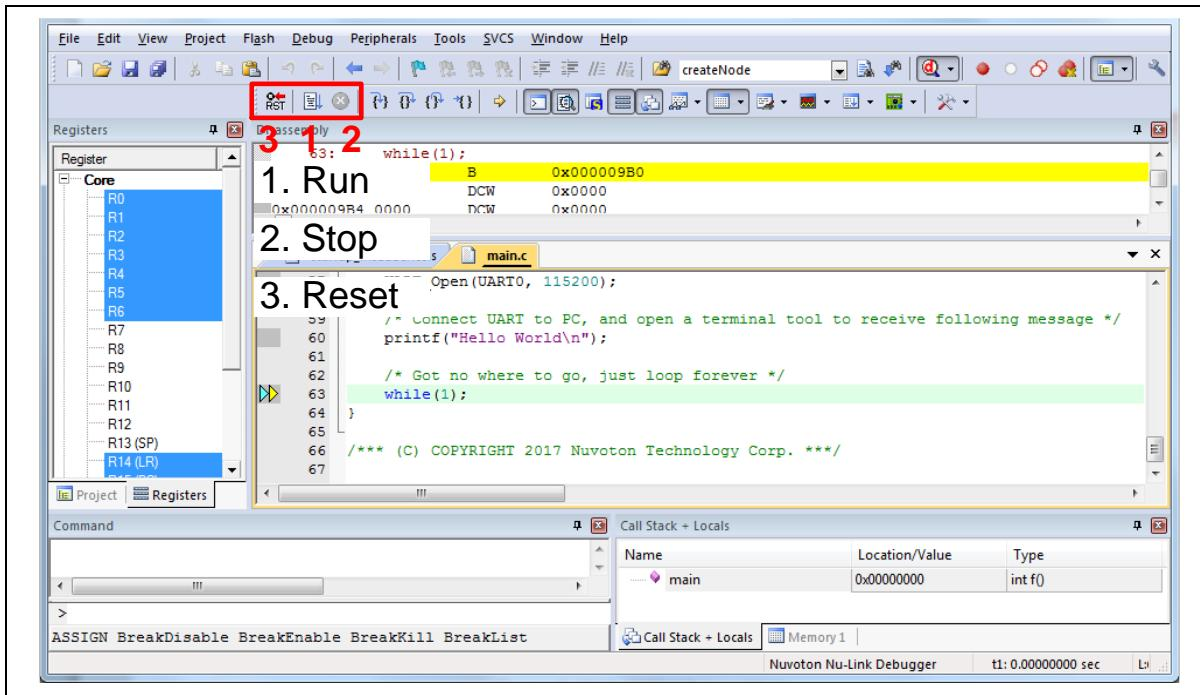
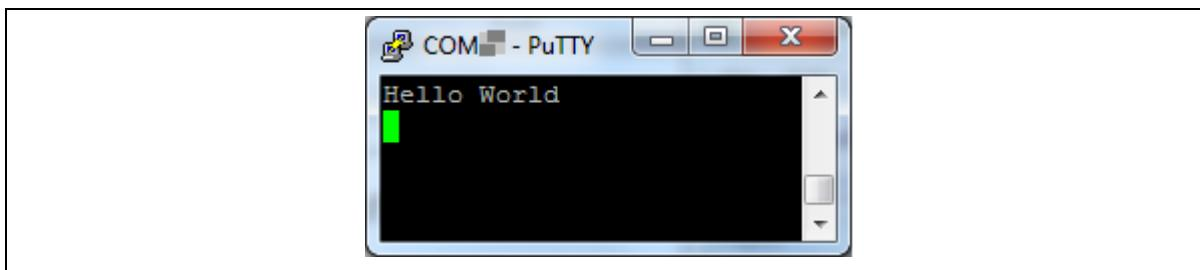

Figure 4-13 Keil MDK Debug Mode
Figure 4-14 Debug Message on Serial Port Terminal Windows
- Figure 4-13 shows the debug mode under Keil MDK. Click “Run” and the debug message will be printed out as shown in Figure 4-14. User can debug the project under debug mode by checking source code, assembly language, peripherals’ registers, and setting breakpoint, step run, value